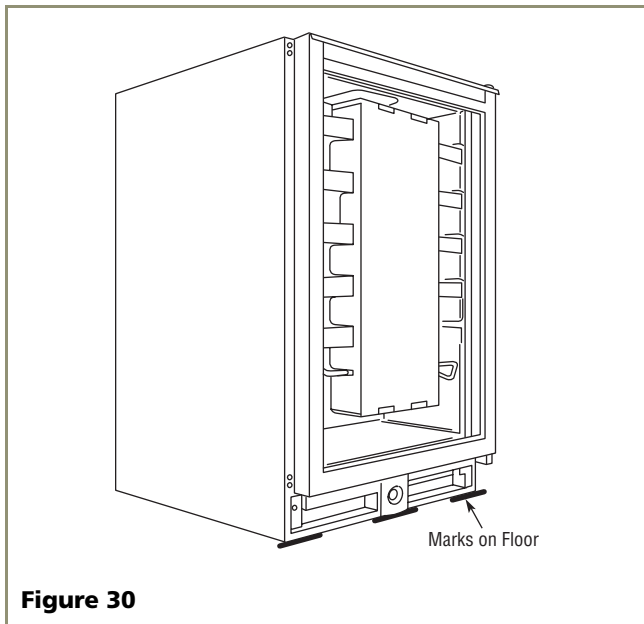

Figure 30
3. Remove grill and place a mark on the floor at the front of the unit. Also place a mark on the floor in the center of the unit. See **Figure 30**.